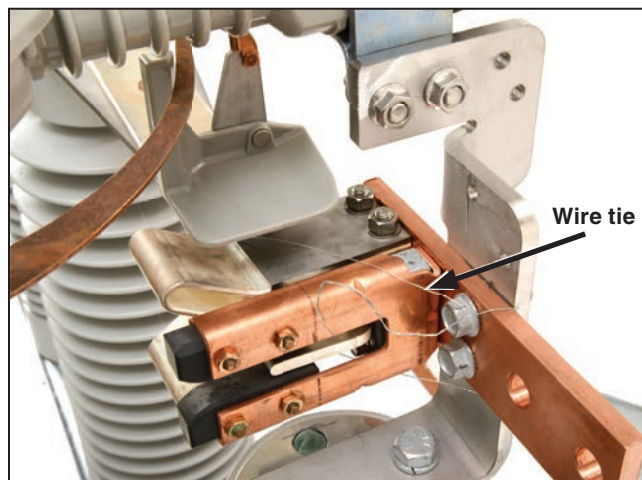

Figure 40. Remove the tie at the stationary main contact assembly.
**STEP 38.** Remove the ties holding the switch blades to their stationary main contact assemblies. See Figure 40.